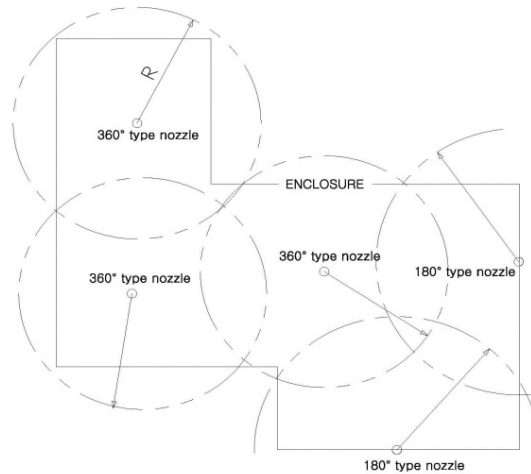

Figure 3.4. Example installation of multiple nozzles depending on protected area configuration.
- Depending on the configuration of protection area, 360° and 180° nozzles may be combined and shall be located in such a way that entire protected area is completely covered (total flooding). Examples of multiple nozzle installation is shown in Figure 3.4.